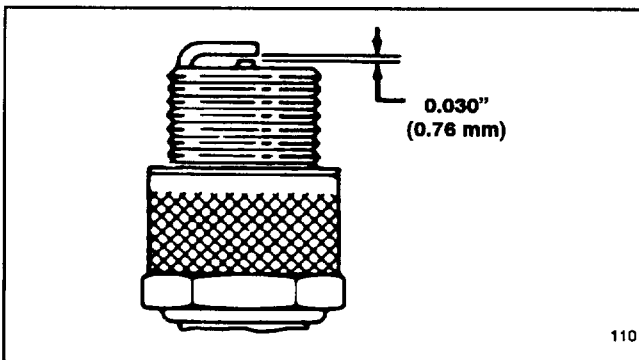

Figure 13
3. Set air gap at 0.030" (0.76 mm) (Fig. 13). Install correctly gapped spark plug and gasket seal. Tighten plug firmly to 14 ft-lb (19 N.m).